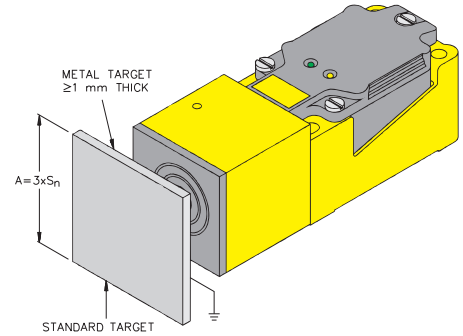
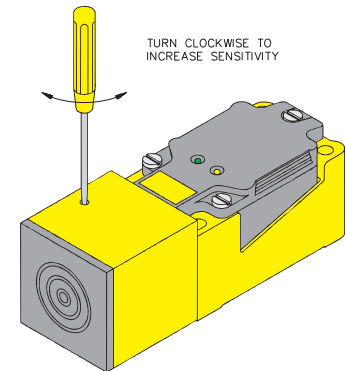

Figure 1
Figure 2
- 2. Adjustment of the potentiometer** – turning the potentiometer in a clockwise direction increases the sensitivity of the sensor. The potentiometer is factory-set for an operating distance of 0.7 to 0.8  $S_n$  to a grounded standard target (Figure 1). It should be adjusted in increments of no greater than a quarter-turn (Figure 2). Increasing the sensitivity results in a greater operating distance to both conductive and non-conductive targets.